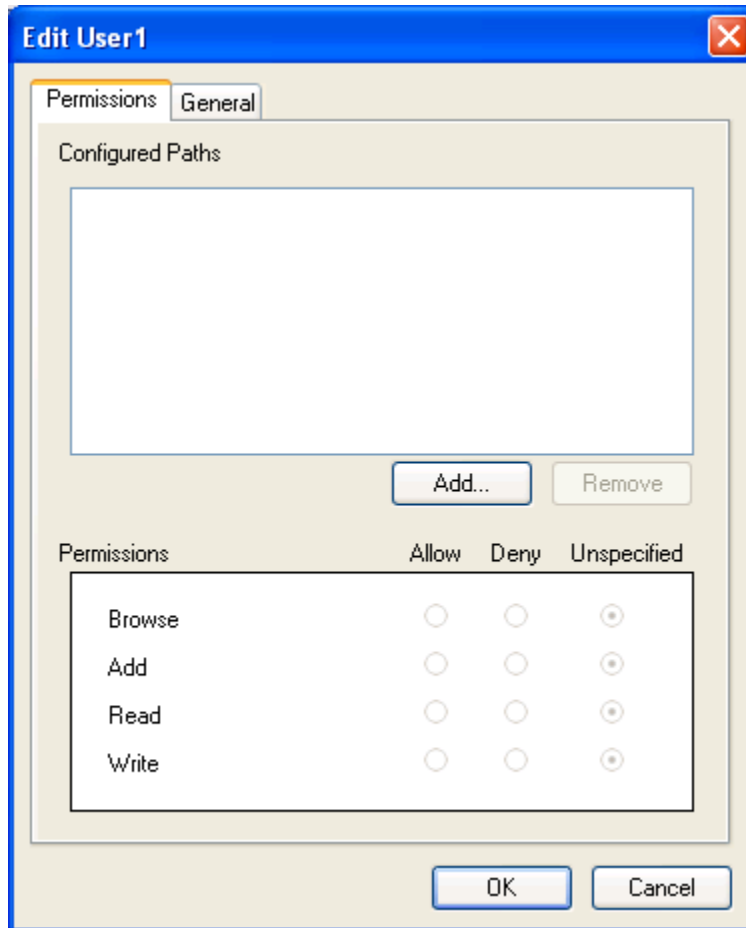

Figure 71 - Edit <Username> Window (Permissions Tab)
- The **Edit <Username>** window (Figure 71) appears. Follow the instructions in the **Edit User** section for adding permissions.
2. The **Edit <Username>** window (Figure 71) appears.